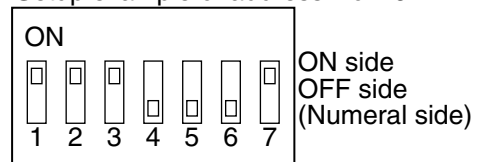

Fig. 3
- (3) Set the network address No. with combination of ON and OFF of ⑥ to ① of the address No. setup switch SW01. The relation between combination of ON/OFF and address No. is described in Table 2. The right figure (Fig. 3) shows an example of case that the address No. is set to 16.